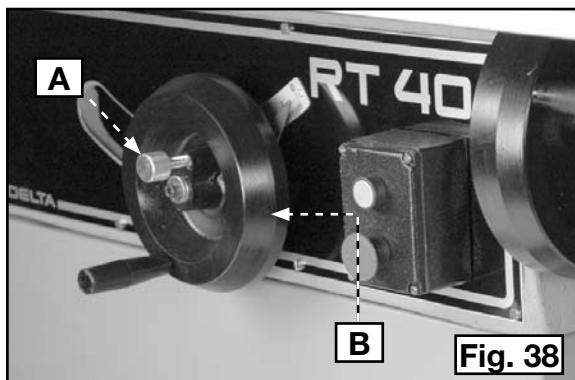

Fig. 38
To raise the blade, loosen the locking knob (A) Fig. 38 and rotate the handwheel (B) clockwise.
Lock the blade at any height with the locking knob (A) Fig. 38.